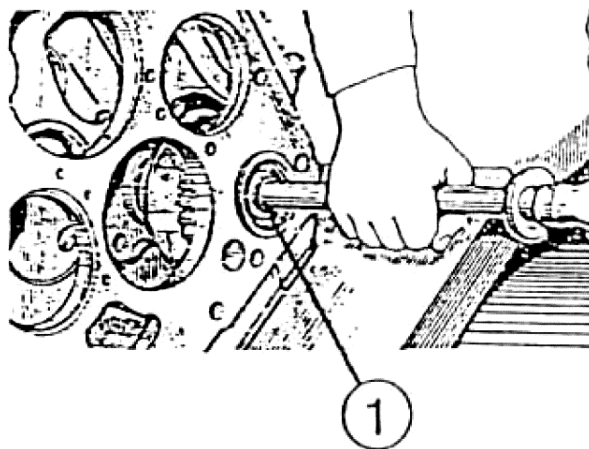

Figure 5.5
3) using spacer made of soft metal (brass, etc.), knock out shaft (1) (figure 5.5) as an assembly forward in tractor movement direction;